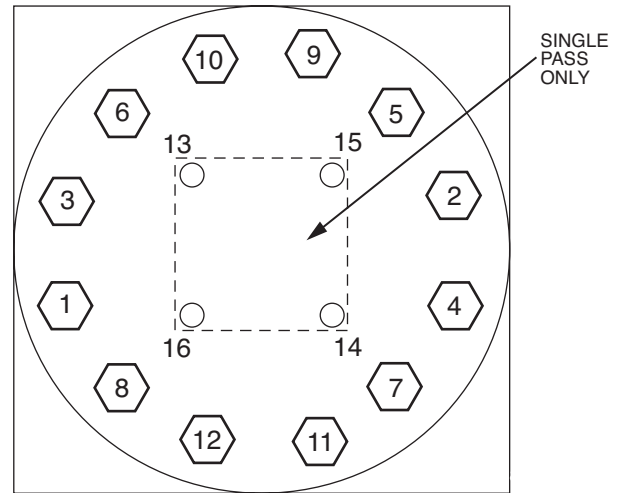

**Fig. 59 — Flooded Cooler Unit Head
2. Bolt tightening sequence is outlined in Fig. 59. Follow the numbering or lettering sequence so that pressure is evenly applied to O-ring.